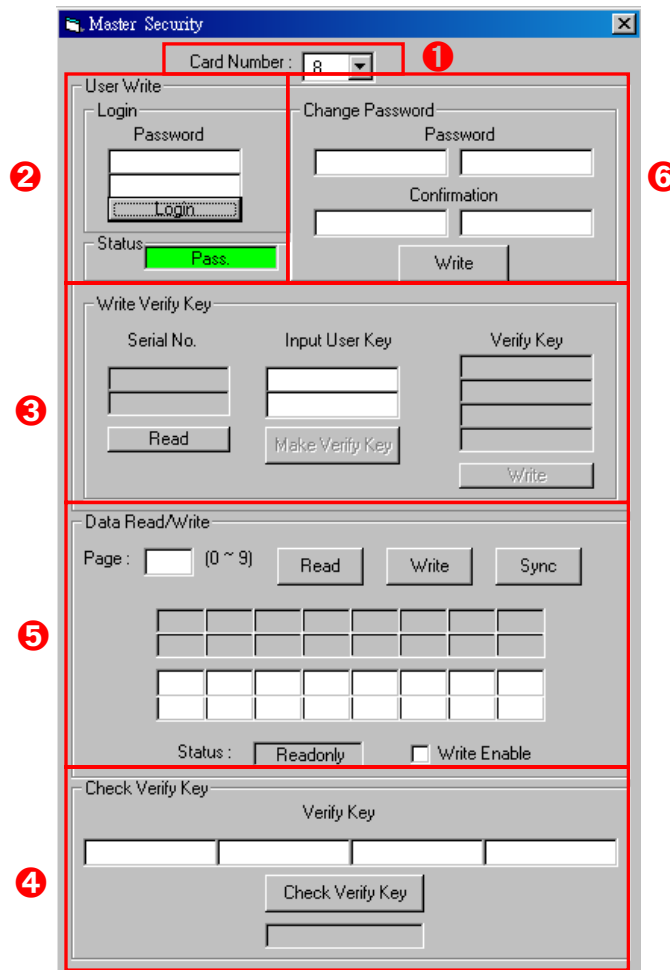
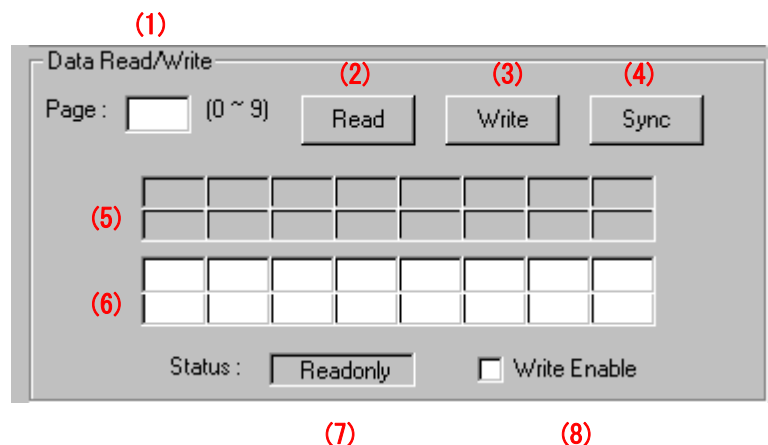

Figure 3.13 Open Master Security interface after user login.
Figure 3.14 Description of master security block ⑤ functions
(If login is successful, status will display "Pass" and grant access to the functions in Blocks ❸, ❺ and ❻ in Figure 3.13; if not, status will display "Failed", and user must re-login)
- ❶ Card ID of DMCNET motion card.
- ❷ User login and status display field.
- ❸ Generate verify key.
Step3: Click on the "Write" button to write the generated Verify Key. (If write is successful, block ❷ will display "Done". "Failed" is displayed otherwise)
- ❹ Verify key confirmation field and status display. Enter the 4 sets of Verify Key generated above into the 4 fields of Check Verify Key then click on "Check Verify Key". (If verification is successful then "Pass" is displayed on the status bar below. "Lock!" is displayed otherwise)
⑤ Data read and write area. (Please see Figure 3.14 for details)
⑥ Change password field.
Step3: If the two passwords in "Password" and "Confirmation" match, clicking on "Write" will change the password. If the passwords do not match, then block ② will show the error message "Confirmation Error". The change password procedure must now be repeated again.
Below is a more detailed description of block ⑤ in Figure 3.13